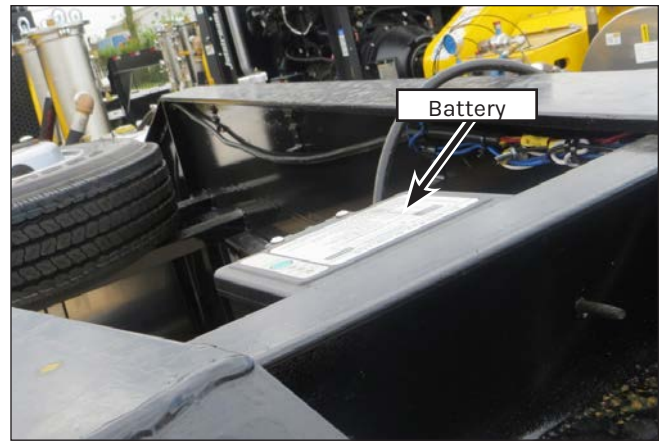

Figure 50: Breakaway System Kit Location.
2. Open the battery case (Figure 50) and check the battery voltage using a voltmeter. The battery should be approximately 12V. If less than 12V, charge the battery. Note the voltage before proceeding to the next step.